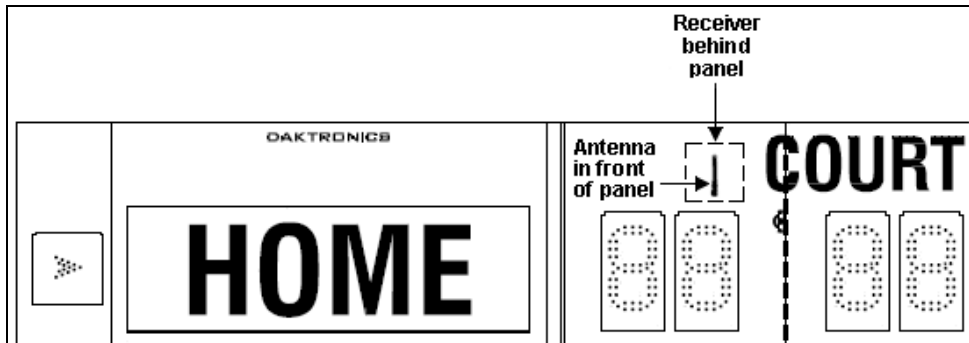

Figure 22: Radio Receiver Location
1. To locate the radio receiver or base station, look for the black antenna sticking out the front of the scoreboard (**Figure 22**). Refer to the component location drawings in **Appendix A** for exact location of the radio for a particular scoreboard.